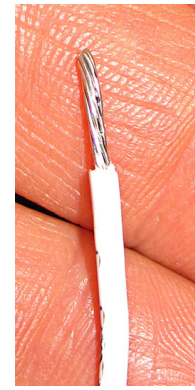

Figure 8
12. If the flame sense wire connector is  $\frac{1}{4}$ " , cut the  $\frac{1}{4}$ " terminal off of the end of the white sense wire and strip the wire (see Figure 8).